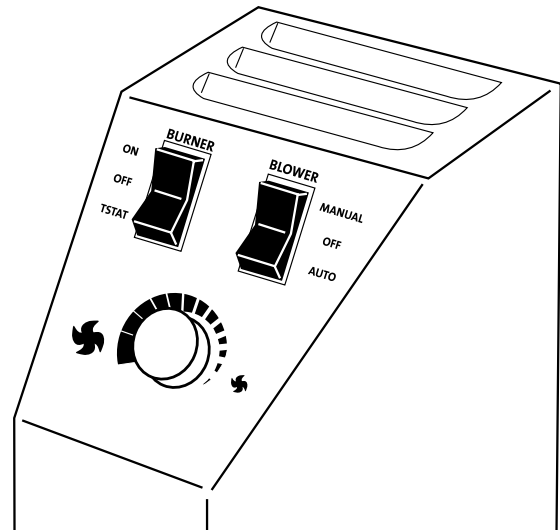

Figure 40. Burner Switch and Optional Blower Controls
- Once the pilot is lit, burner operation is controlled by the rocker switch located at the left rear corner of the stove. Use the T-STAT position for the optional thermostat or remote control functions. See fig. 40.